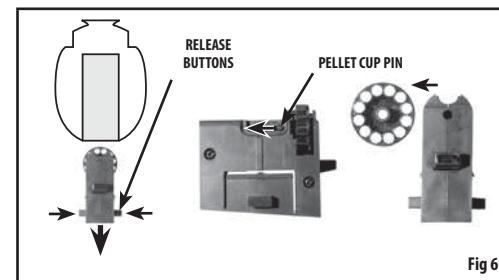

Fig 6
Slide the pellet clip pin forward and remove the pellet clip from the side of the pellet magazine. (Fig. 6)
- Slide the pellet clip pin forward and remove the pellet clip from the side of the pellet magazine. (Fig. 6)